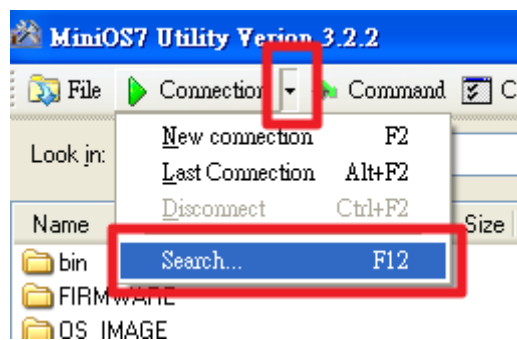

Figure 109 Search IP
2. Choose “Connection→Search” or “F12”, as shown in *Figure 109*.